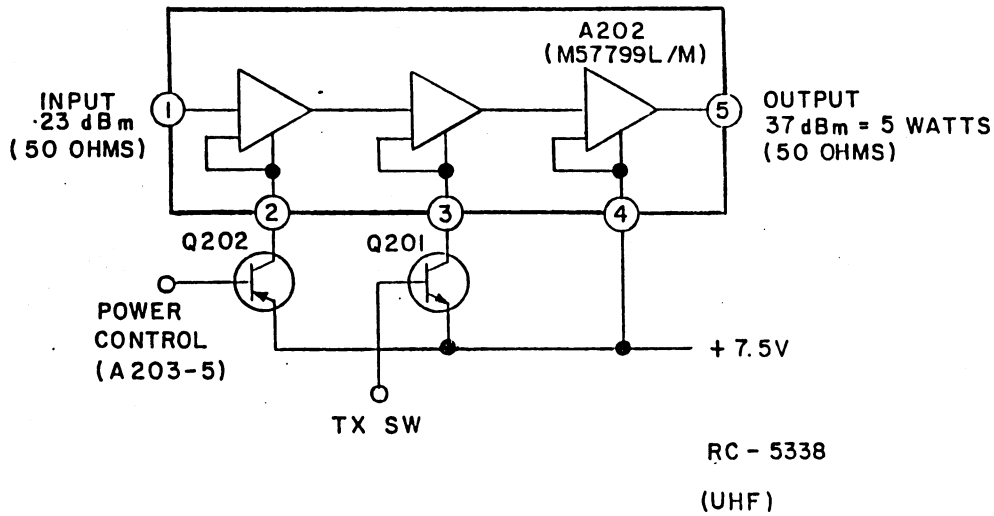

FIGURE 3 - POWER AMPLIFIER (PA)
Power Amplifier (PA) A202 is a three stage, wide band amplifier module with an input and an output impedance of 50 ohms (refer to Figure 3). The first stage of the PA module has DC power supplied by power control transistor Q202. The RF power output from Pin 2 of TX-Amp A201 is connected through resistor attenuator R-ATT to Pin 1 of the PA module where it is applied to the input of the RF power amplifier stages. The RF power amplifier stages amplify the input from the TX-Amp module to a typical power output level of 5 watts at Pin 5. The output at Pin 5 is connected through power control hybrid IC A203 (PC) and TX-RX switching diode CR201 to low pass filter network FN. A minimum power level of 4 watts is on the output of the filter network.